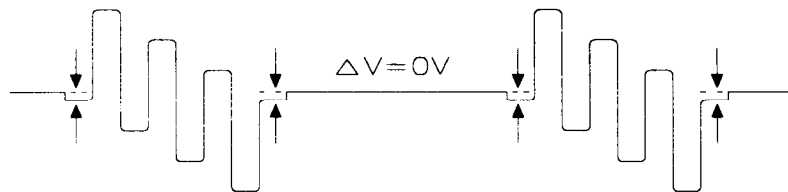

FIG. 1
4. Adjust VR301 to obtain the waveform as in Fig.1.